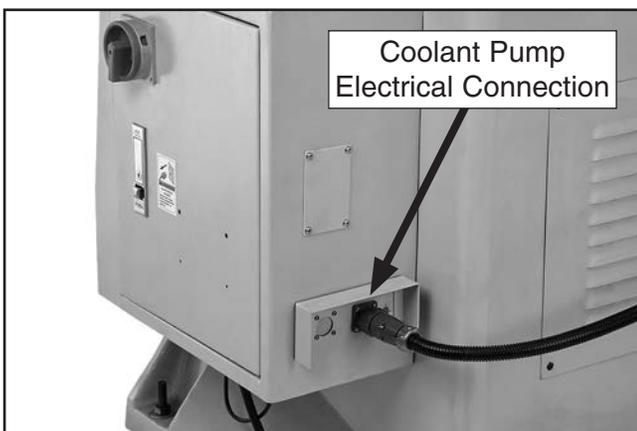

Figure 11. Location of coolant pump electrical connection to electrical cabinet.
4. Disconnect coolant power cable from electrical cabinet (see **Figure 11**) by twisting the knurled ring counterclockwise (the ring closest to the electrical cabinet).